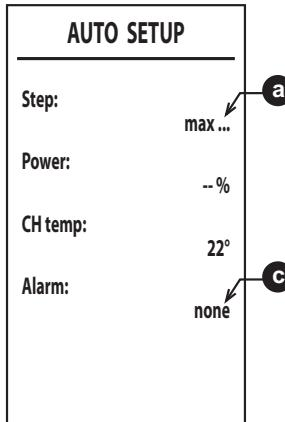

fig. 38
6. After ignition, the burner goes to the various powers (max, med, min) indicated by the point **a** (fig. 38).
8. If the ignition sequence described in point "6" is unsuccessful, the display shows the message **max\_err** at the point **a** and an error code at the point **c** (fig. 38).